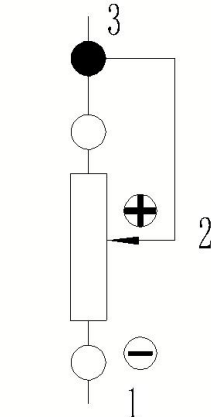

图3 正极接电刷(不推荐)
3、 当电位器在直流电路中作为电流调节使用时，将有直流电流通过电位器的滑动臂。此时由于阳极氧化的原因，会导致电阻值的异常增加。在这种情况下，建议将电阻体的引出端子接负极，将滑动臂的引出端子接正极（见图 3）。
When the potentiometer is used as a current regulation in the DC circuit, the DC current passes through the sliding arm of the potentiometer. This causes an abnormal increase in the resistance value due to anode oxidation. In this case, it is recommended that the mains of the resistor be connect the terminal negative and the lead-out terminal positive pole of the sliding arm (see fig 3).